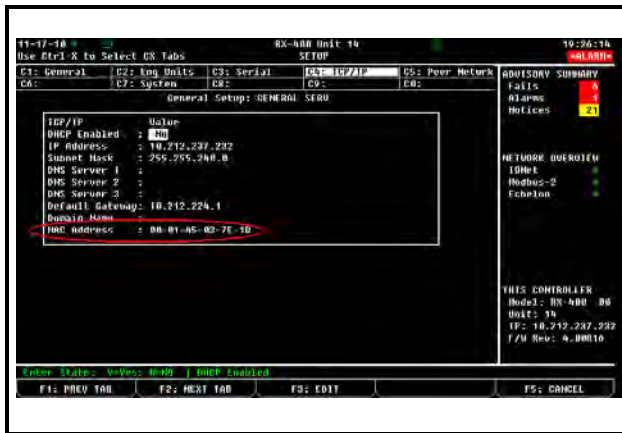

Figure 10-33 - TCP/IP Screen - Locating the Mac Address
3. Press **#/3** (TCP/IP Setup) to open the TCP/IP Setup screen and locate your E2's MAC address (circled in *Figure 10-33*):